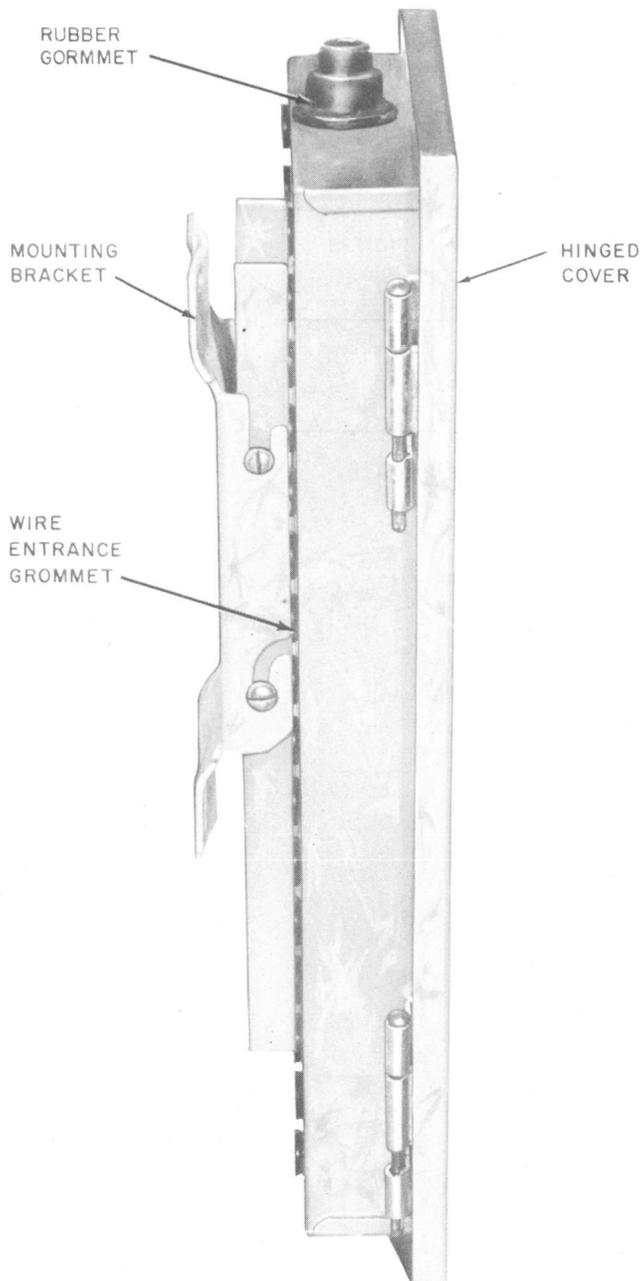

Fig. 2—Sheet Metal Box
2.04 The sheet metal box (Fig. 2) consists of a hinged door which may be locked in the open or closed position, 32 grommets for entrance of wires, and a mounting bracket for pole or wall mounting.